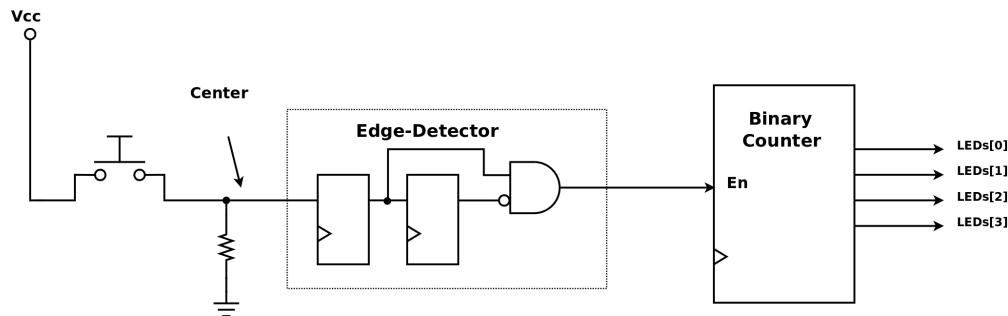

Figure 10: Example Synchronous Circuit without Debounce Circuitry
- (a) Figure 10 provides a simple synchronous circuit that will be sensitive to switch bounce. This circuit contains a binary counter with an enable controlled by the output of an edge-detector. The edge-detection circuitry serves two purposes in this circuit. First of all, it synchronizes the asynchronous input from the virtual push-button in the testbench. Second of all, it detects when that signal transitions from LOW to HIGH. Thus, it detects a positive-edge. The output of the edge-detector is a pulse that immediately follows the rising-edge of *Bounced_BTN* and is one clock cycle wide. The designer intended to create a circuit that will increment a counter by one
- (b) The circuit in Figure 10 has been implemented for you in 'noDebounce.v'. Copy this file from the course directory to your lab9 directory. Click 'Simulation Settings' on the left panel of Vivado, and click 'simulation' tag. Set the xim.simulate.runtime to be 3000ns. Use 'Bounce_tb.v' as the testbench and run the simulation of 'noDebounce.v'. Check the output waveforms. Does the circuit in 'noDebounce.v' work as expected? Why or Why not?
- (b) Study the circuit in Figure 4. Now take a moment to examine the uncommented Verilog code in 'withDebounce.v'. You should find that this source file contains the circuit in Figure 10 and the circuit in Figure 4 combined into one. Please add comments to the source code and include it in your lab write-up.